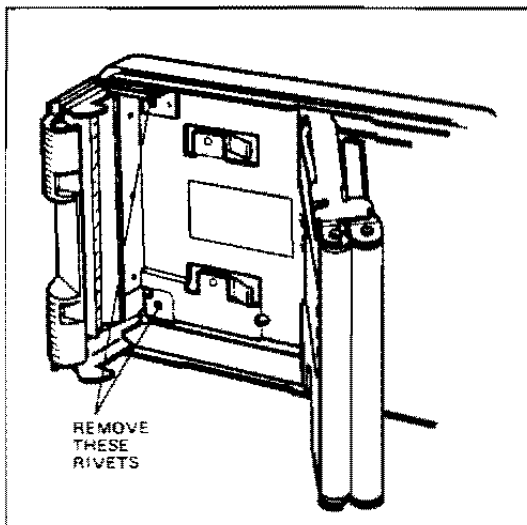

FIG. 4-8A LOCATION OF THE RIVETS
a. Remove the two rear door rivets (Figure 4-8A) using a De-Staco tool with anvil B11357 (part #1) and head B11357 (part #2). (Save the red roll latch.)